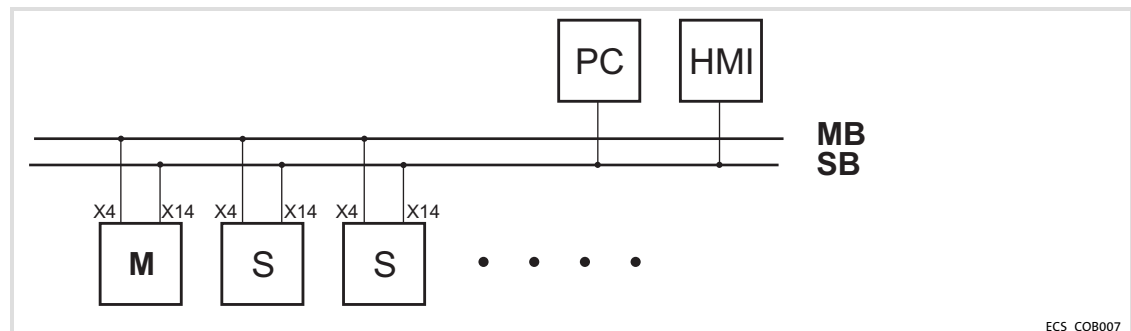

Fig.5-14 MotionBus (CAN) with controller as master
- In Fig.5-14 the function of the master is enabled by a controller intended as master.